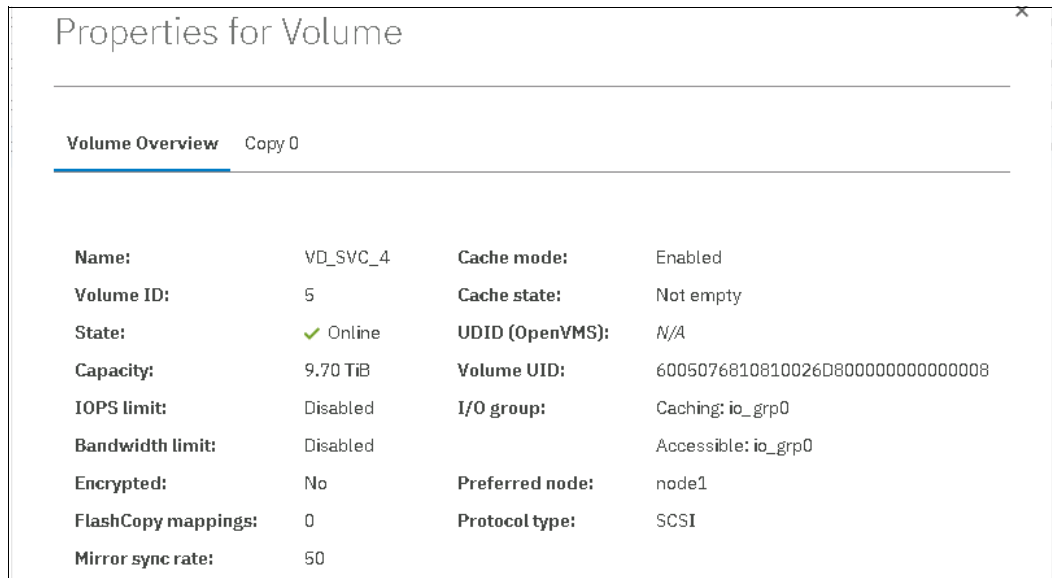

Figure 4-13 FlashSystem volume details
1. To identify the volume serial number, right-click a volume and select **Properties**. Figure 4-13 on page 143 shows the Volume Properties dialog box that opens.
2. To identify your LUN, in the volumes by Hosts view, expand your IBM SAN Volume Controller host group and then review the LUN column, as shown in Figure 4-13 on page 143.
1. From the backend IBM FlashSystem side first, check the Volume UID field for the volume that was presented to the virtualizer, as shown in Figure 4-13 on page 143.